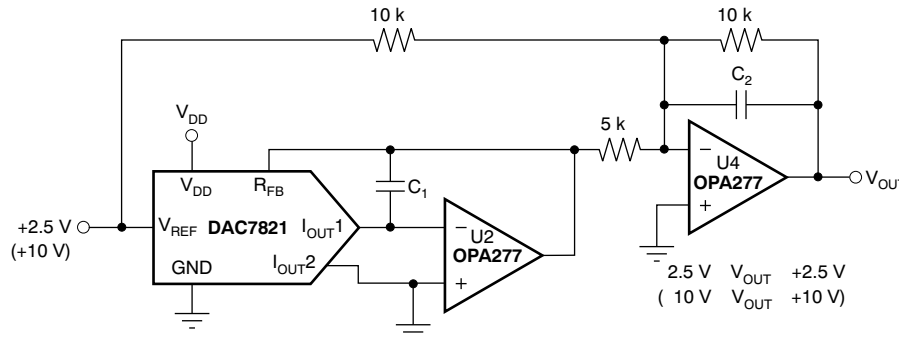

Figure 29. Bipolar Output Circuit
Some applications require full 4-quadrant multiplying capabilities or bipolar output swing. As shown in Figure 29, external op amp U4 is added as a summing amp and has a gain of 2X that widens the output span to 5 V. A 4-quadrant multiplying circuit is implemented by using a 2.5 V offset of the reference voltage to bias U4. According to the circuit transfer equation given in Equation 2, input data (D) from code 0 to full-scale produces output voltages of $V_{OUT} = -2.5$ V to $V_{OUT} = +2.5$ V.
External resistance mismatching is the significant error in Figure 29.